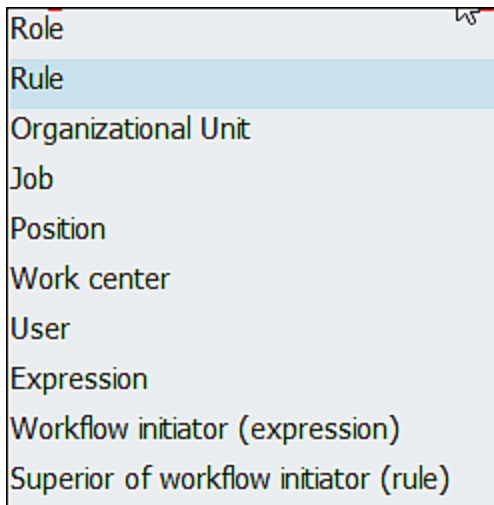

Figure 4.16 Different Agent Determination Types
- **Agents:** This will determine who gets the workflow item. This is needed if the task is a foreground task. For a background task or subworkflow, this information isn't needed. There are several ways to determine agents. Rules are the most dynamic way. Figure 4.16 shows the possible type of agent determination. See Chapter 6 for more details on agent determination.